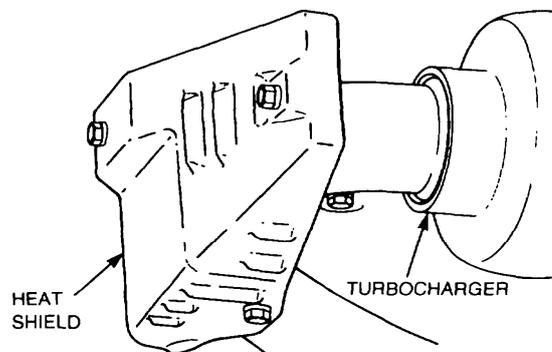

Figure 43 Turbocharger Heat Shield Removal
- b. Remove the bolts securing the heat shield to the turbocharger and remove the heat shield (Figure 43).